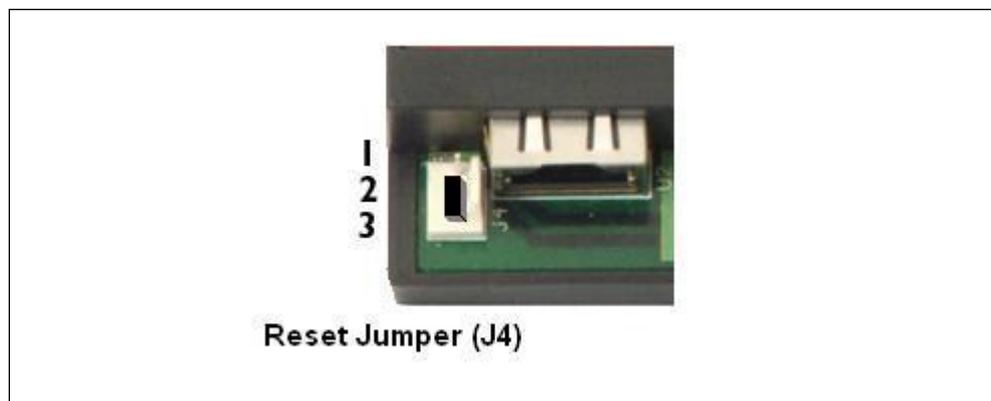

Figure 35. The shorting jumper should be installed on the reset jumper (J4)
- Install the jumper on pins 2 and 3 of the rescue jumper \(J4\). See Figure 35.
2. Install the shorting jumper on pins 2 and 3 of the reset jumper (J4). See Figure 35 above for the location of J4.